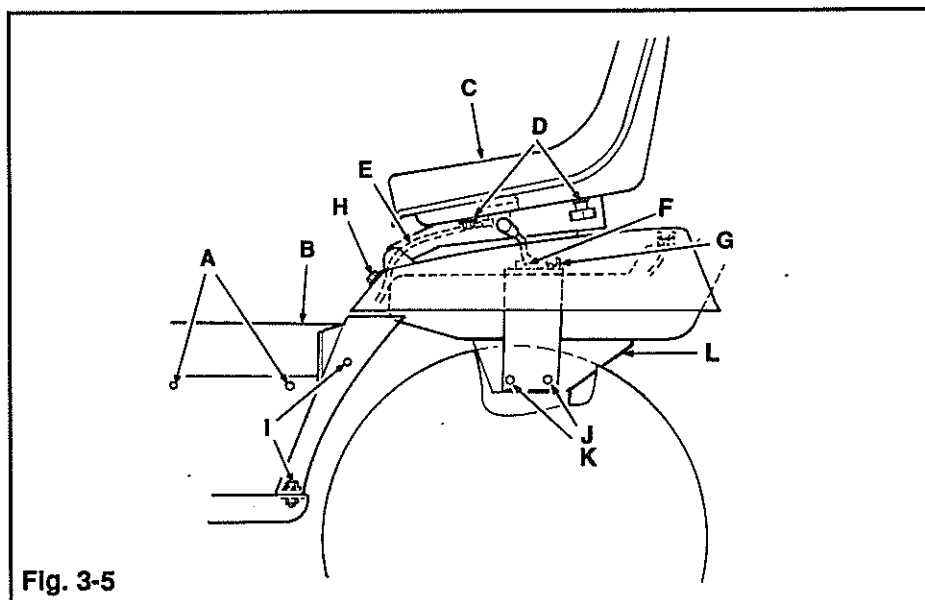

Fig. 3-5
2. Remove four (4) bolts (A, Fig. 3-5) securing tunnel cover (B).
3. Loosen seat (C) at screws and knobs (D). Remove from seat support. Disconnect seat switch wires (E) and remove seat.
4. **(TWO SPEED MODELS)** Remove roll pin (F) from shift lever (G). Remove shift lever.
5. Remove the 2-5/16 Flange Nuts (G) securing rear of fender and the 2-5/16 Flange Bolts (H) securing front of fender. Pull seat switch wires through seat support and fender. Remove fuel cap and lift fender and seat support off.
remove the two (2) lower 3/8 x 1 bolts and flange nuts (J, Fig. 3-5). On the right side, remove the lower two (2) 3/8 flange bolts (K) which are threaded into the rear axle housing (L). Remove fuel tank.